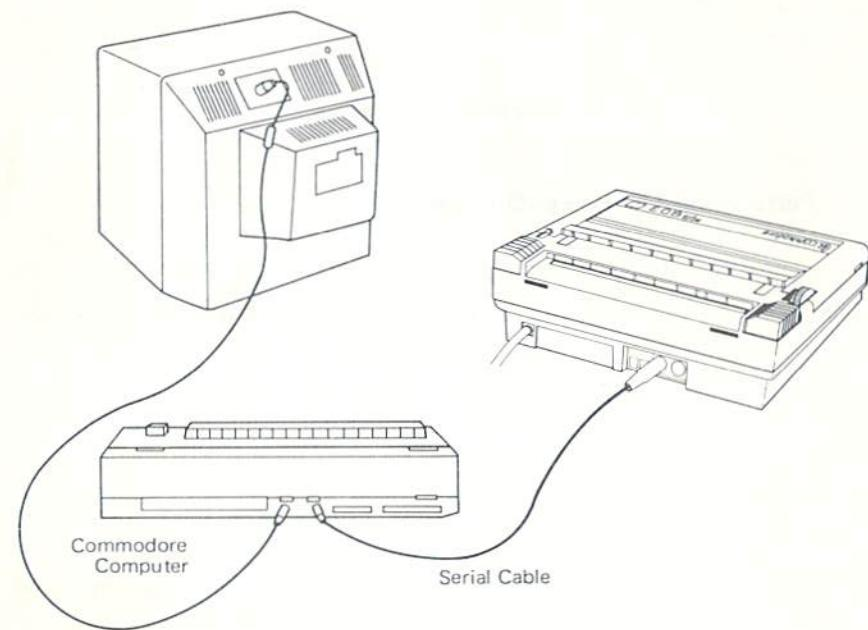

Figure 12. Printer to Computer Hookup
#### E. Connecting The Printer To Your Computer (See Figure 12, 13)
3. Connect the other end of the cable to your computer in the Serial Port Connector located in the back of your computer (See Figure 12) or your Disk Drive (See Figure 13). Make sure that you are "keying" the pins properly into the connector with 6 holes.